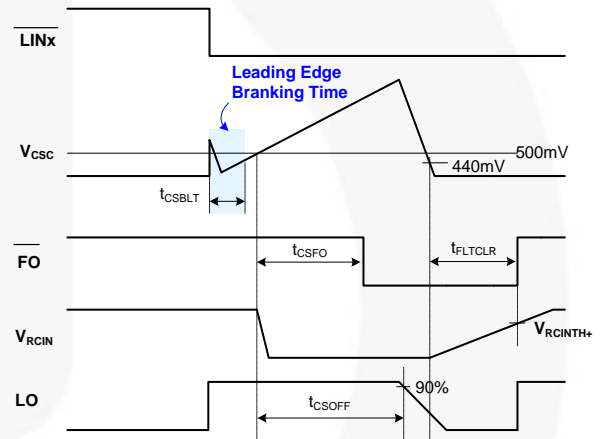

Figure 43. $RCIN$ and Fault-Clear Waveform Definition
Figure 43 shows the waveform definitions of $RCIN$, \overline{FO} , and the low-side driver; which uses a soft turn-off method when an under-voltage condition of the low-side gate driver supply voltage (V_{DD}) or the current-sense pin (CS) recognizes a fault. If a fault condition occurs, the \overline{FO} Pin is internally pulled to COM and all outputs (HO1,2,3 and LO1,2,3) of the gate driver are turned off. Low-side outputs decline linearly by the internal sink current source ($I_{SOFT}=40 \text{ mA}$) for soft turn-off, as shown in Figure 43.